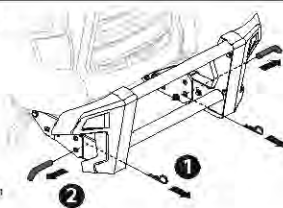

Figure 57
1. Remove two cotter pins, and then pull the pins. See Figure 57.